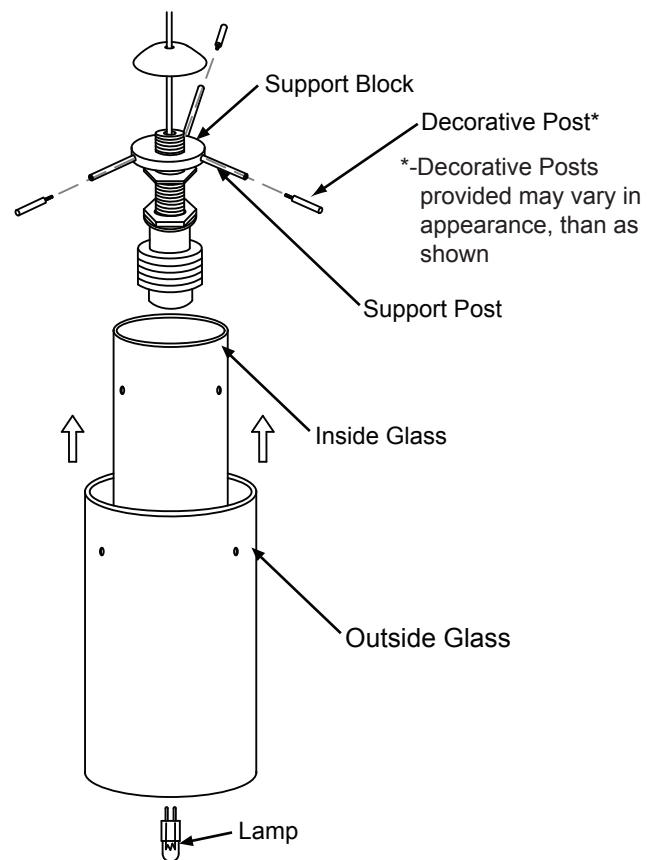

Figure 2
2. Following figure 2, the glass shades (shapes may vary) will be positioned as shown. Align inside glass shade so that the Support Posts easily fit through the side holes in the inside glass shade and align with the holes in the Support Block and then thread the Support Posts into the Support Block holes. Next, align outside glass shade so that the Decorative Posts easily fit through the side holes in the outside glass shade and align with the holes in the Support Posts and then thread the Decorative Posts into the Support Posts holes.